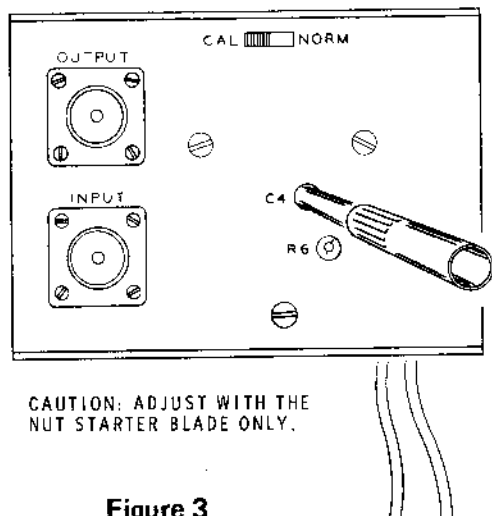

Figure 3
- 2.() Connect a 50-ohm noninductive load, such as the Heathkit Antenna, to the remote chassis OUTPUT jack. (See Figure 3 on Page 14).
- 3.() Connect the transmitter output to the INPUT jack on the remote chassis. (See Figure 3.)
- 6.() Set the CALIBRATION switch, on the rear of the remote chassis, to NORM (see Figure 3).
- 12.() Refer to Figure 3, and adjust SWR NULL trimmer C4, through the rear of the remote chassis, with the alignment tool (nut starter) for the best null or greatest dip of the meter needle. This reading should be at or near zero. NOTE: Do not use any metal tool other than the nut starter blade to make these adjustments.